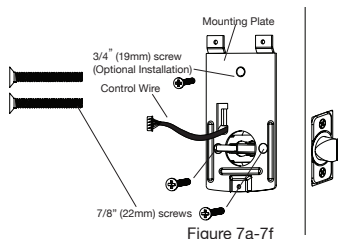

Figure 7a-7f
- From the side marked "This side against door", route the Control Wire through the rectangular slot in the Mounting Plate (Figure 7a).